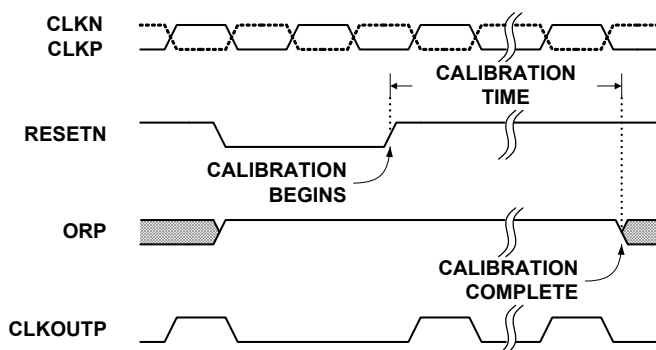

FIGURE 25. CALIBRATION TIMING
The calibration sequence is initiated on the rising edge of RESETN, as shown in Figure 25 on page 19. The Over-Range (OR) output is set high once RESETN is pulled low, and remains in that state until calibration is complete. The OR output returns to normal operation at that time, so it is important that the analog input be within the converter's full-scale range to observe the transition. If the input is in an over-range condition, the OR pin will stay high, and it will not be possible to detect the end of the calibration cycle.